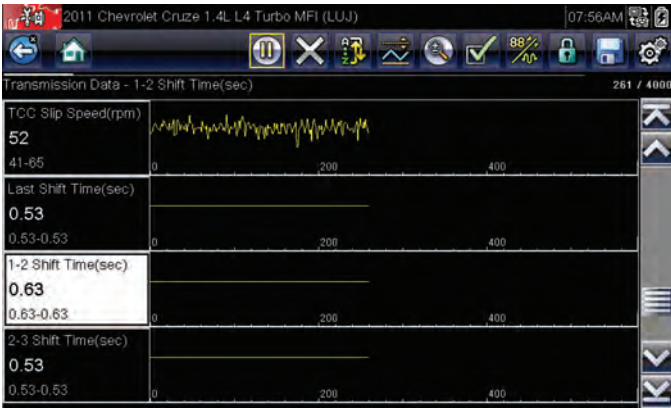

FIGURE 11-40 A scan tool displaying the time it took to perform the 1-2 shift.
On most late-model General Motors (GM) transmissions, adaptation to transmission shifts will be made by varying the line pressure in the transmission. Remember, as with all manufacturers, not all vehicle transmissions used in GM vehicles are produced by GM. Also, some of the newer 6-speed transmissions, such as the 6L80 transmission, use a system similar to the Chrysler style. GM calls their adaptive control TAP. The PCM first analyzes the time it takes to complete an upshift. The PCM, however, will only analyze certain upshifts. If the driver is operating the vehicle erratically, the PCM will not attempt to analyze the shift because there is too great of a chance that the shift could be adapted incorrectly. The PCM also ignores any shifts that occur during other events that can cause a change in the shift quality. For example, the PCM will not analyze a shift occurring during cycling of an A/C compressor (**FIGURE 11-40**).